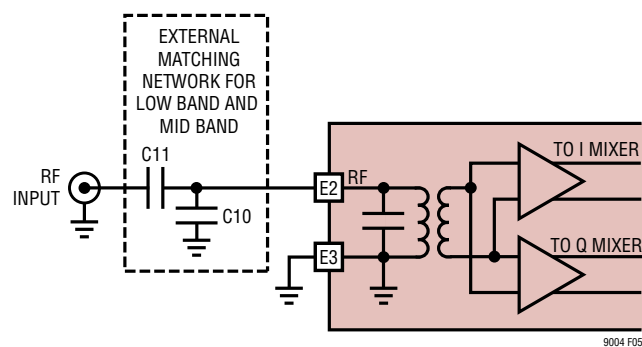
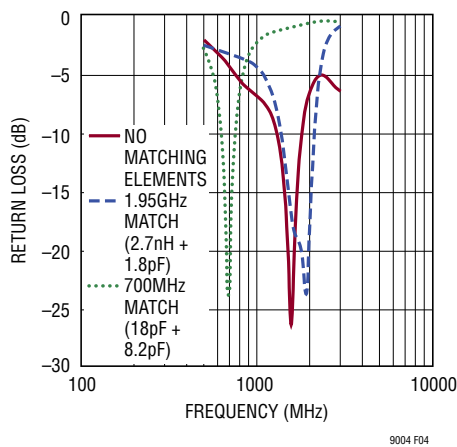

Figure 3. RF Input Interface
Figure 4. RF Port Return Loss vs Frequency
**RF (Pin E2):** RF Input Pin. This is a single-ended 50Ω terminated input. No external matching network is required for the high frequency band. An external series capacitor (and/or shunt capacitor) may be required for impedance transformation to 50Ω in the low frequency band from 700MHz to 1.5GHz (see Figure 4). If the RF source is not DC blocked, a series blocking capacitor should be used. Otherwise, damage to the IC may result.
Figure 3 shows the mixer’s RF input which consists of an integrated transformer and high linearity transconductance amplifiers. The primary side of the transformer is connected to the RF input pin. The secondary side of the transformer is connected to the differential inputs of the transconductance amplifiers. Under no circumstances should an external DC voltage be applied to the RF input pin. DC current flowing into the primary side of the transformer may cause damage to the integrated transformer. A series blocking capacitor should be used to AC-couple the RF input port to the RF signal source.
at lower frequencies, however, the input return loss can be improved with the matching network shown in Figure 3. Shunt capacitor C10 and series capacitor C11 can be selected for optimum input impedance matching at the desired frequency as illustrated in Figure 4. For lower frequency band operation, the external matching component C11 can serve as a series DC blocking capacitor.